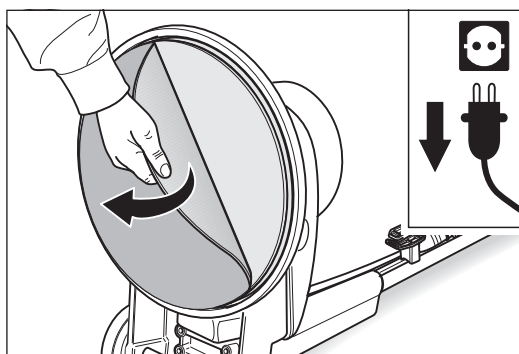

Fig. 17 Pull off the worn Velcro-backed sanding disc.
- 5 Pull the worn Velcro-backed sanding disc off the Velcro attachment disc of the sanding plate (Fig. 17).